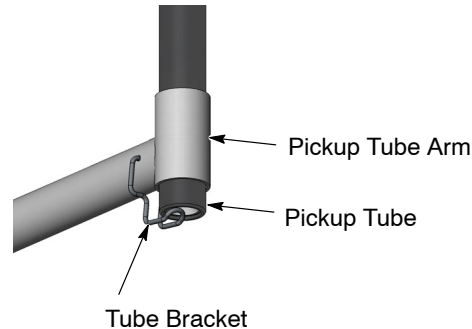

Figure 4-6 Pickup Tube Bracket Use
1. See Figure 4-6. Lift the pickup tube up and swing the tube bracket down and under the pickup tube end to hold it in place on the arm.